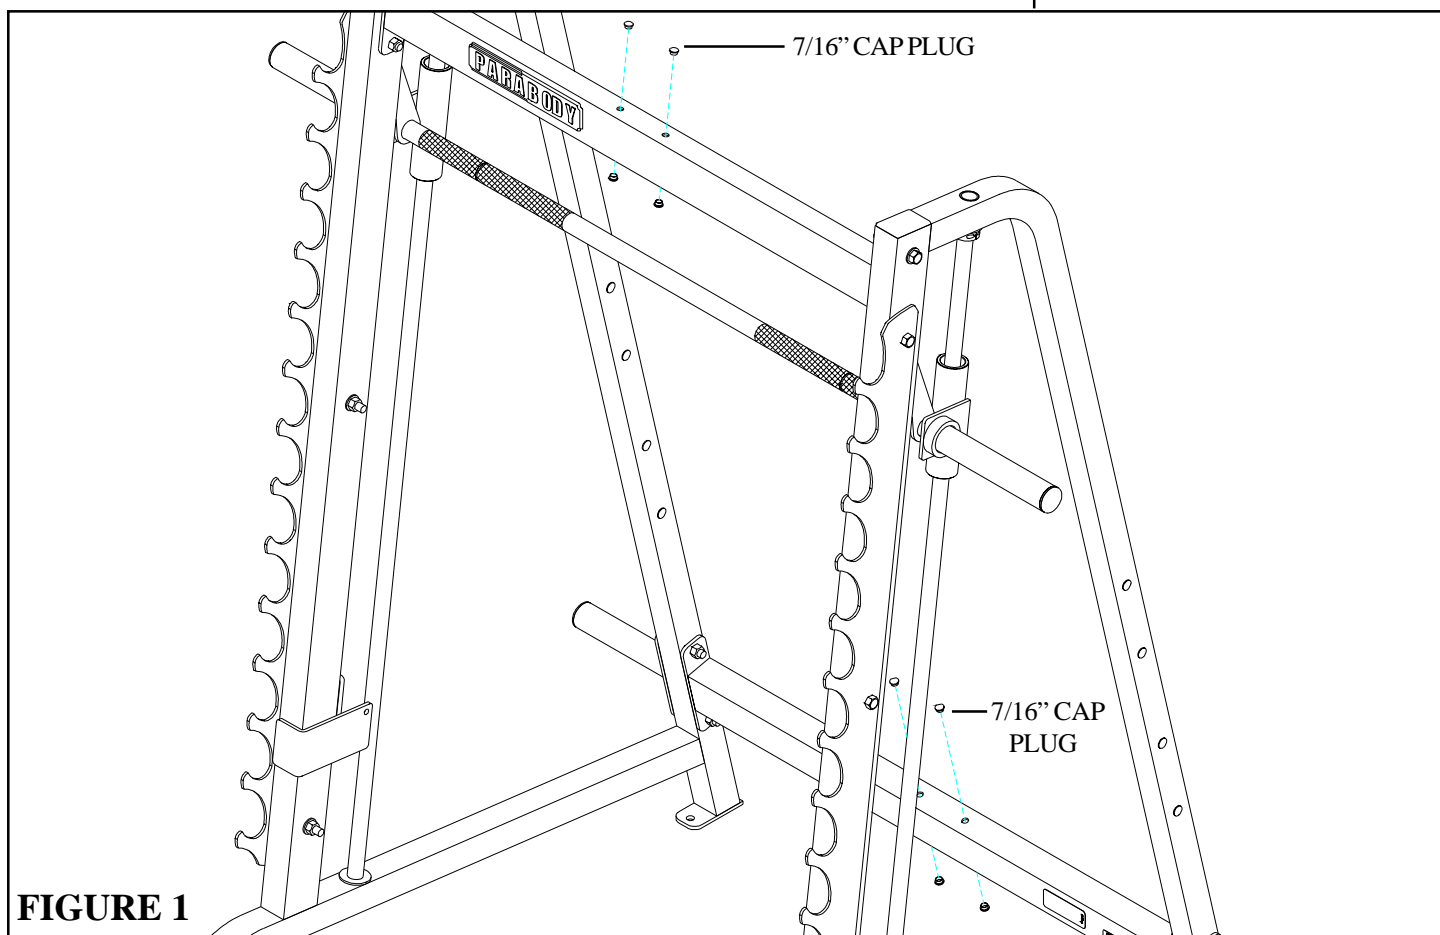

FIGURE 1
- Remove four 7/16" CAP PLUGS from the UPPER & LOWER CROSS SUPPORTS on the 888 SMITH MACHINE as shown in FIGURE 1.